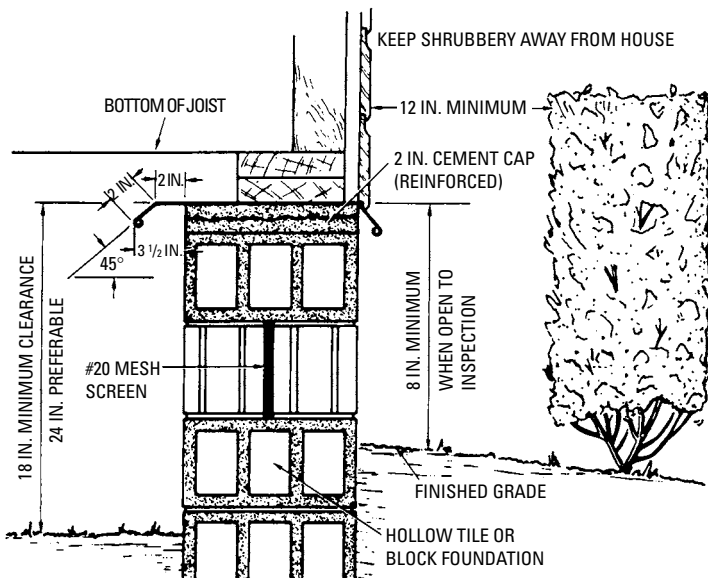

Figure 10-2 Metal shields used in various types of construction to protect against an invasion of termites.
- Buildings that have no basements should have the sills set a minimum of 18 inches and preferably 24 inches above the excavated ground or natural grade at all points to afford the necessary clearance and good ventilation (Figure 10-2).